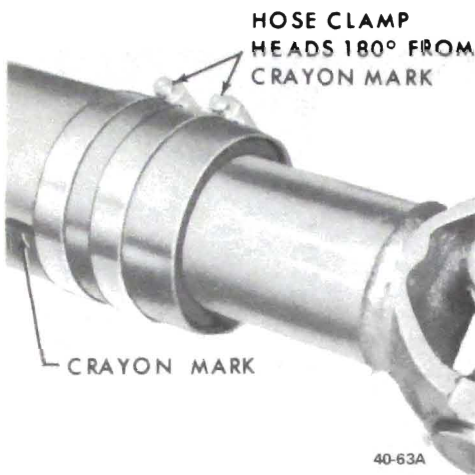

Figure 40-63 - Balance Hose Clamps in Place
2. Mark and number propeller shaft at four (4) points 90 degrees apart at rear of shaft just forward of balance weight.
3. Install two (2) Wittek type hose clamps on the rear propeller shaft and slide them rearward until the clamps stop at the nearest balance weight welded to the tube. Align both clamps to any one of the four marks made on shaft in Step 2. Tighten the clamps. See Figure 40-63.